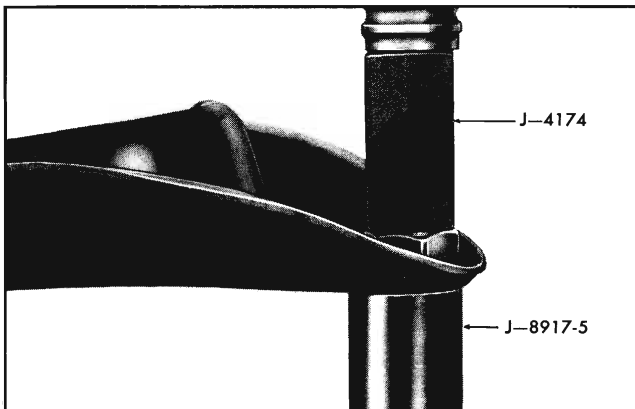

Fig. 3-19 Installing Lower Control Arm Ball Joint
1. With Tool J-4174 or other suitable tool, press ball joint into place (Fig. 3-19). Install lube fitting in bottom of joint and lubricate with chassis lube. Place rubber cap over stud.